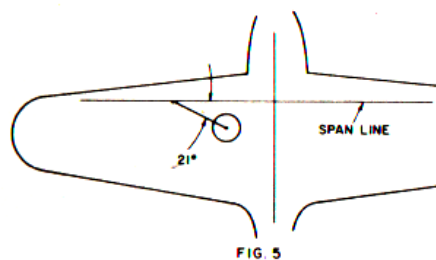

FIG. 5
- Measure angle of rake back when the gear is up, relative to the span line. Example in **figure 5** shows 21 degrees.